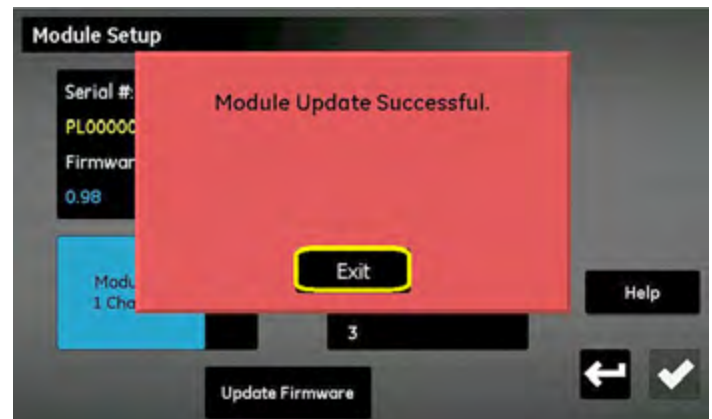

Figure 99: Installation successful
9. The module setup screen now displays the updated version of the firmware (see *figure 99* below).